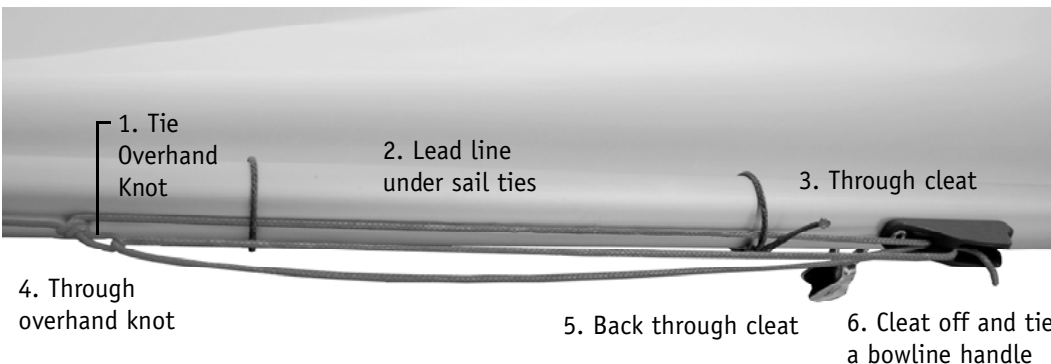

Figure: 40
4. Tie an overhand knot in the outhaul two sail ties before the boom cleat. Lead the outhaul line through the two sail ties and through the cleat (Figure 40).
5. Lead the line back through the overhand knot and back forward through the cleat. Cleat off and tie a large bowline handle in the end (Figure 40).